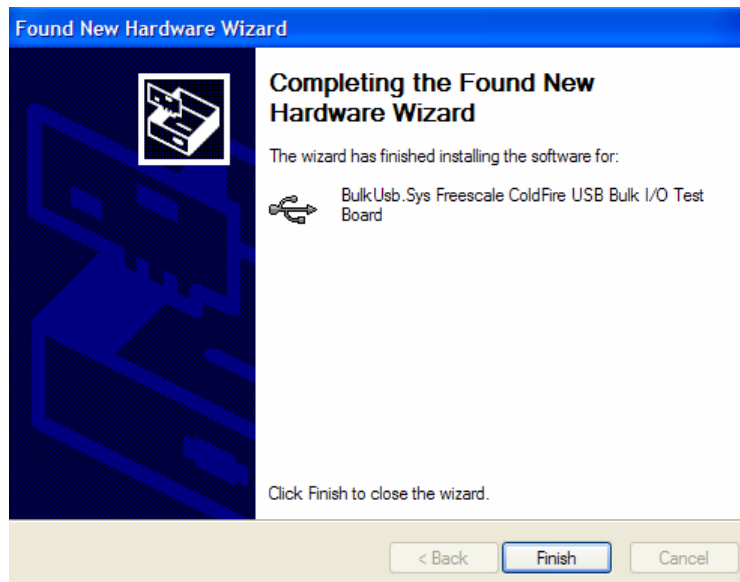

Figure 5. USB Device Installation Completed
8. A message informing that the installation is finished appears (Figure 5).